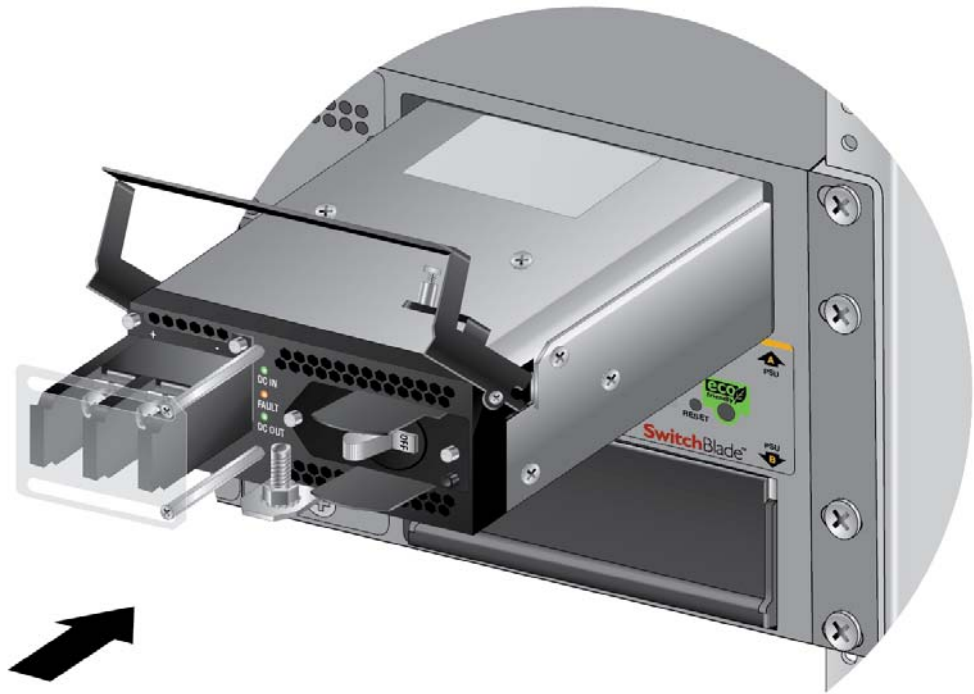

Figure 34. Inserting the AT-SBxPWRSYS1-80 DC Power Supply
6. Carefully align the power supply in the slot and slide it into the slot until it makes contact with the connector inside the chassis. Refer to Figure 34.